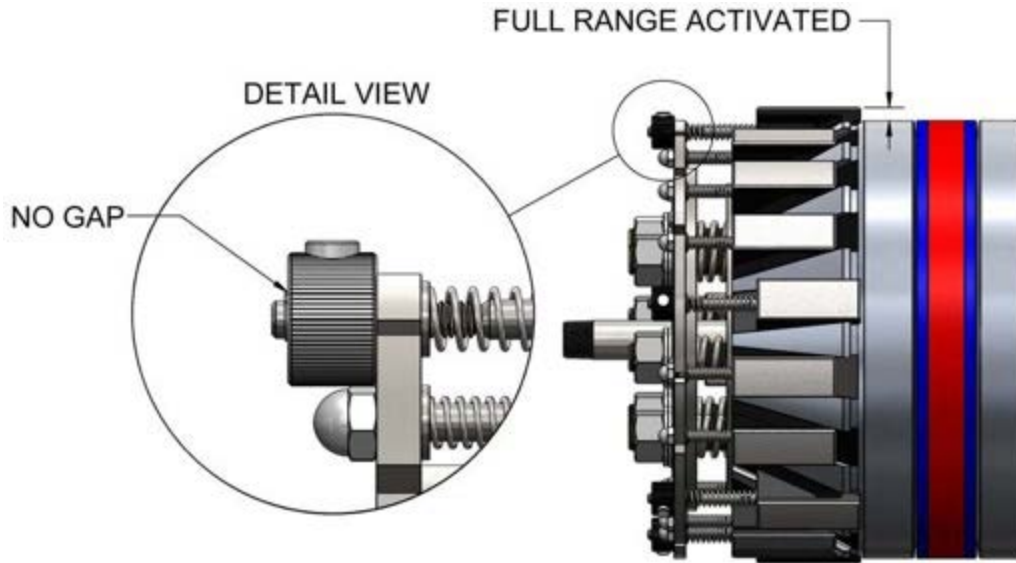

Figure 11: Selected Wedges Auto-Locking Technology **Correct** Ready to Install State
- 8.1 GripSafe ST Outboard Retraction Blocking plugs sized 14” and larger are equipped with Selected **Wedge Gripper (4)** auto-locking technology (SWAT) to facilitate easier insertion into the pipe.
- Plugs equipped with SWAT must be in the "Correct Ready to Install State" (see Figure 11) before being inserted into the pipe.
- In the "Correct Ready to Install State," only five **Wedge Grippers (4)** are active and extend beyond the plug's outer diameter, while the remaining **Wedge Grippers (4)** are inactive and housed within the plug. Upon insertion, all five active **Wedge Grippers (4)** will engage the pipe's inner diameter, allowing for easier insertion while ensuring a secure fit.
- In the "Correct Ready to Install State," the Speed Nuts (1) are positioned at the top of the **Wedge Gripper Stems (2)**, with no gap between the **Speed Nut (1)** and its retainer ring (see Figure 11 – DETAIL VIEW). It is essential that there is NO GAP between the **Speed Nuts (1)** and their retainer rings during plug installation to ensure proper activation of the SWAT mechanism.